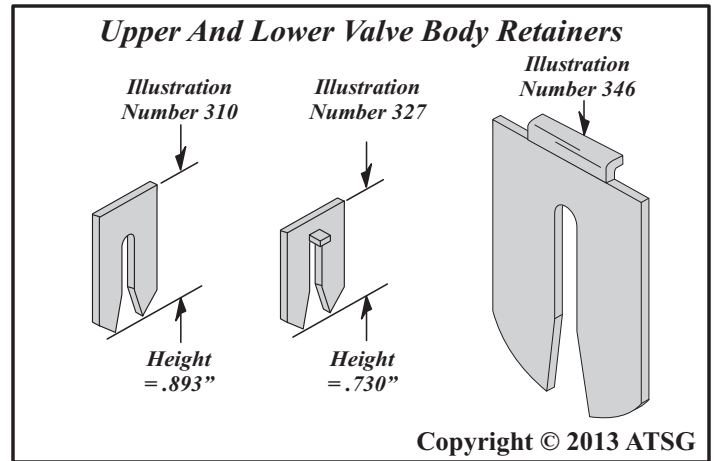

Figure 175
**Note: There are 3 different size retainers used in upper and lower valve bodies. Dimensions and illustration numbers are in Figure 175.**